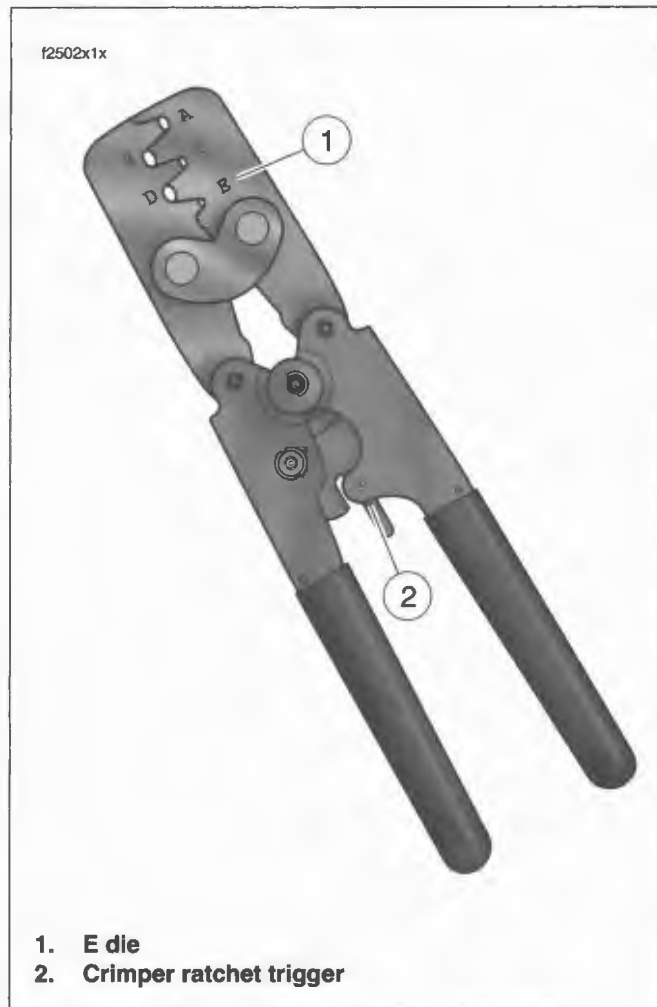

Figure B-20. Packard Terminal Crimper (HD-38125-7)
1. See Figure B-20. Compress the handles of PACKARD TERMINAL CRIMPER (HD-38125-7) until the ratchet (2) automatically opens.